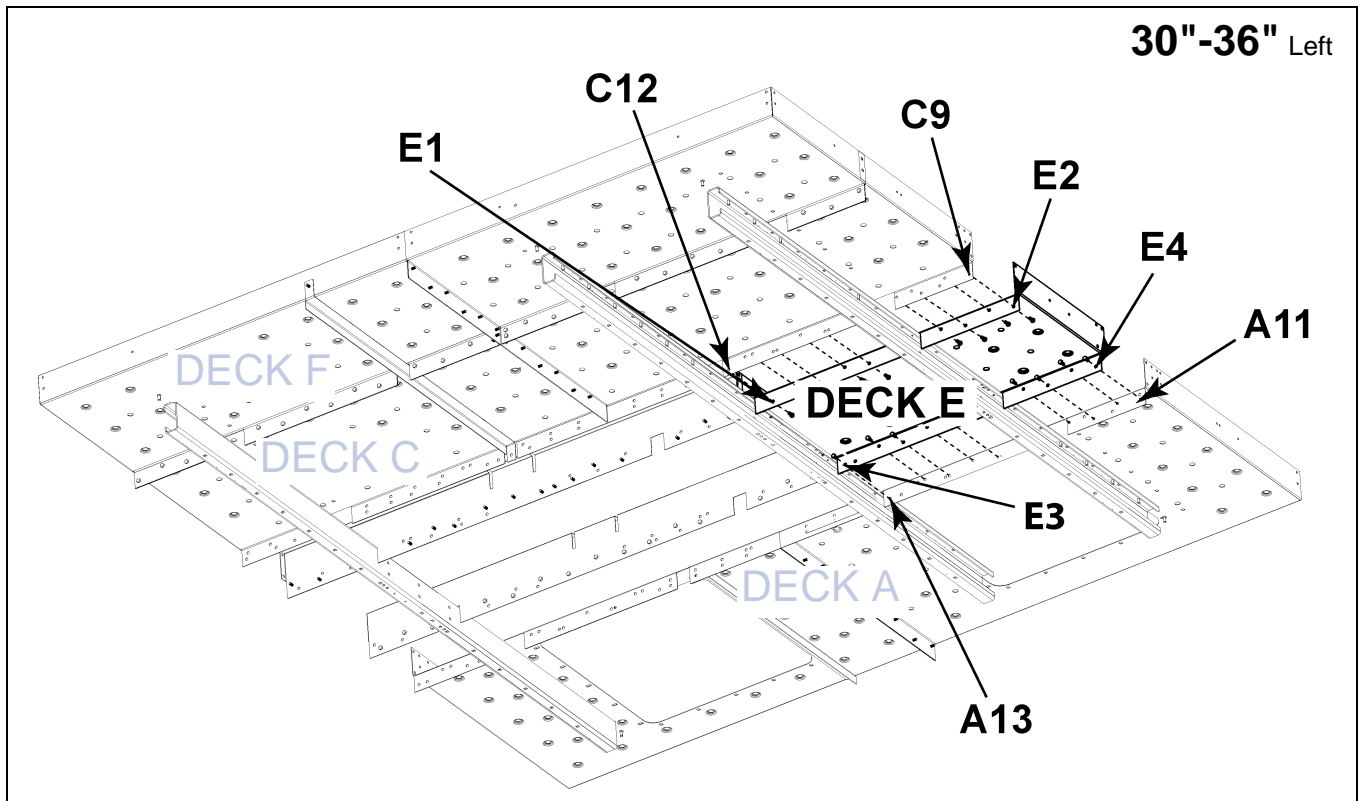

Figure 9P
1. Position Deck E between Deck A and Deck C. Note that Deck E will be connected to two (2) channels. *(See Figure 9P on Page 89.)*
4. Connect the Deck E kick plate flanges to toe boards and flanges of Deck A and Deck C using 3/8" x 3/4" bolts (S-7105) and 3/8" nuts (S-10028). *(See Figure 9P on Page 89.)*
5. Align and connect Deck E to Deck A and Deck C using 3/8" x 1" bolts (S-7469) with flange nuts (S-10028). *(See Figure 9P on Page 89.)*